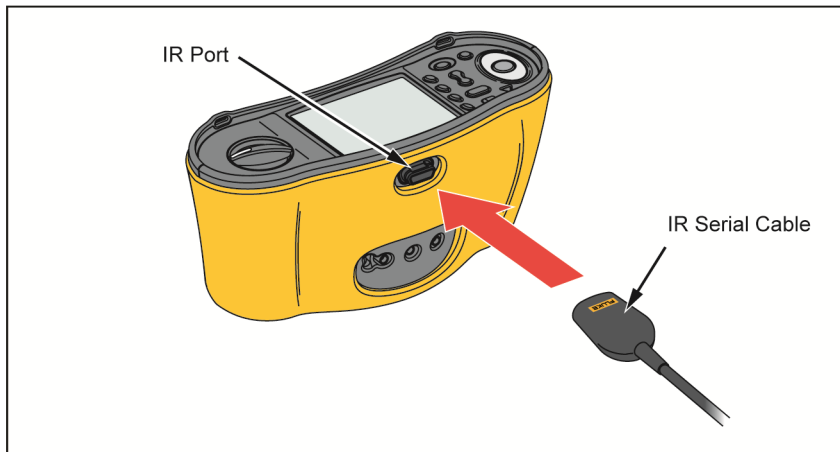

Figure 19. IR Serial Cable Attachment
1. Connect the IR serial cable to the serial port on the PC and the IR port on the Tester. See Figure 19.